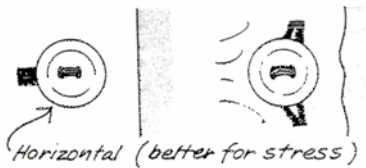

Figure 7
- Use horizontal buttonholes when a garment fits closer to the body. Horizontal buttons withstand stress better than vertical buttonholes. (Figure 7)